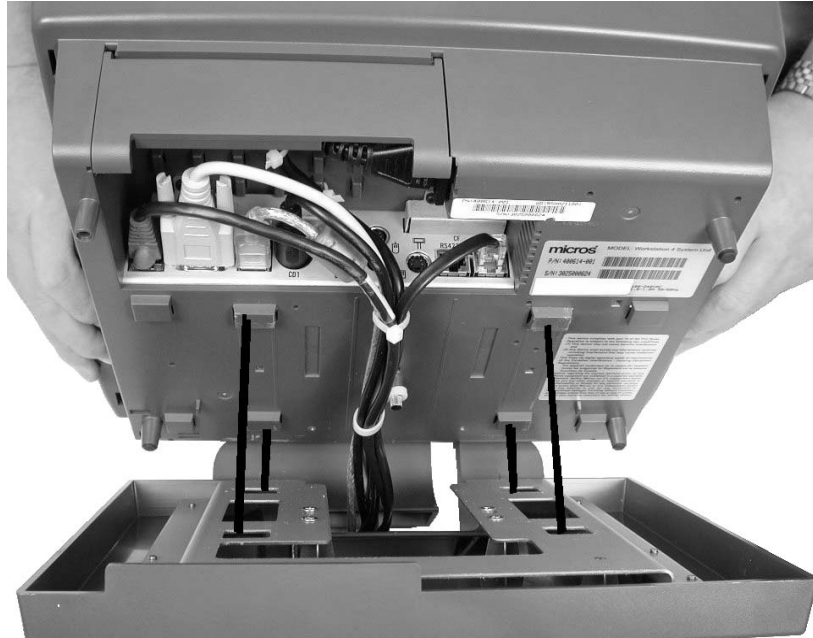

Figure 4-2: Attaching the Workstation to the Adjustable Stand
2. Line the four inside plastic hooks on the workstation with the four rectangular holes on the stand and place the unit on the stand as shown in Figure 4-2. The workstation will slide down and lock into place.